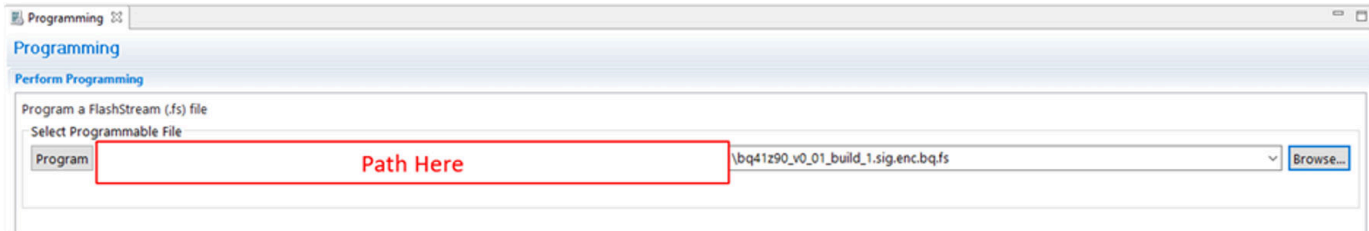

Figure 4-5. Programming Screen
The upper section of the Programming screen is used to initialize the device by loading the .bq.fs file into the flash memory (see Figure 4-5).
The lower section of the Programming screen is used to export all of the flash memory from the device (see Figure 4-5).
2. In the *Path for combined .bq.fs*, press the *Browse* button and enter a .bq.fs filename that differs from the name above (for example, filename_combined), see example Figure 4-5. The combined .fs file contains the encrypted FW and user specific settings to be uploaded in production.